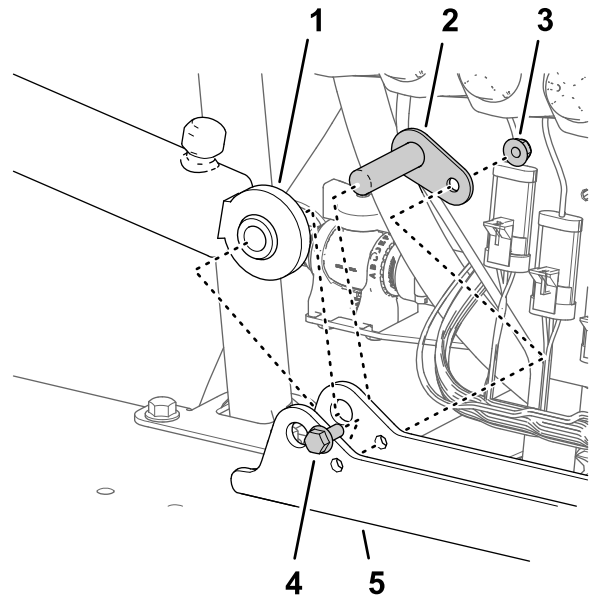

Figure 120
1. Align the fixed end of the lift cylinder that you removed in step 3 of Removing the Lift Cylinders \(page 25\) to the 16 mm (5/8 inch) hole in the cylinder mount (Figure 120).
2. Assemble the cylinder to the cylinder mount with the pivot pin, flanged-head bolt, and flange nut (Figure 120).